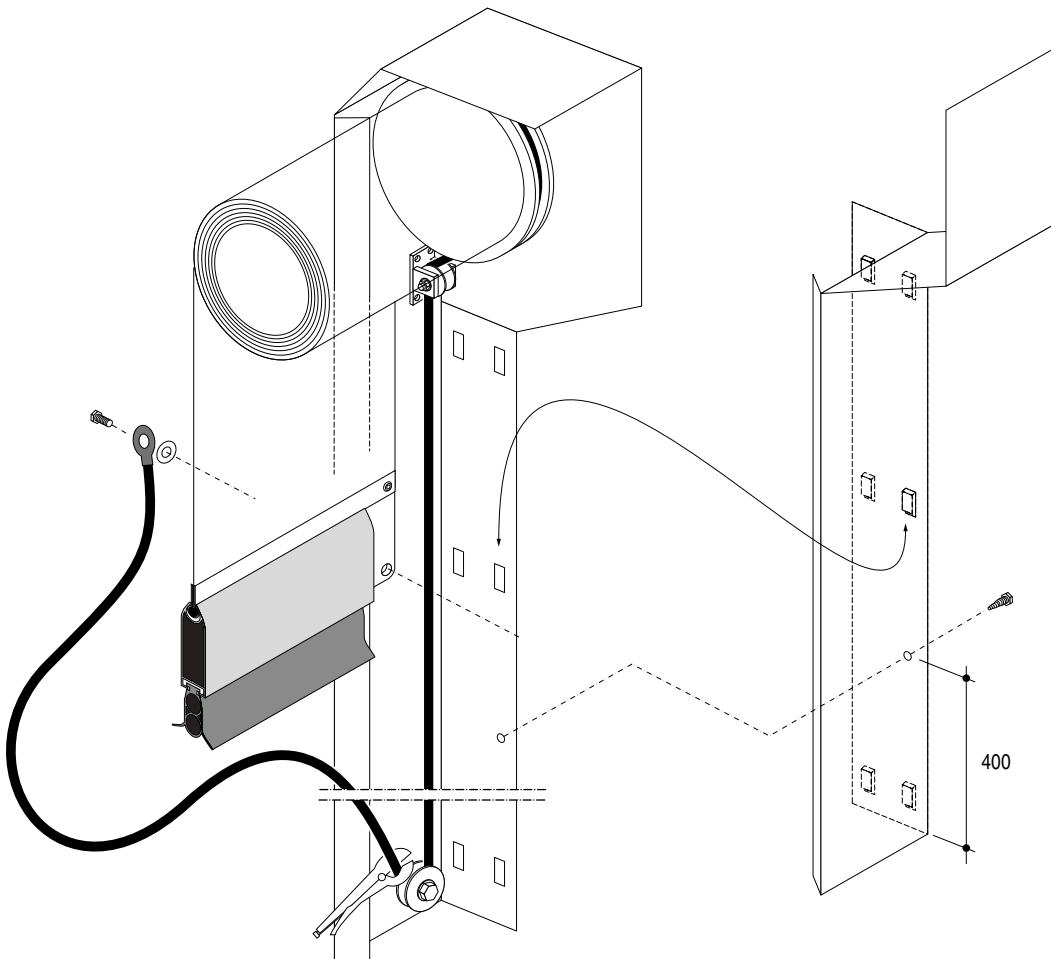

figure 2.4.1
2.4 Assembly of the tension system (when appropriate): see fig. 2.4.1